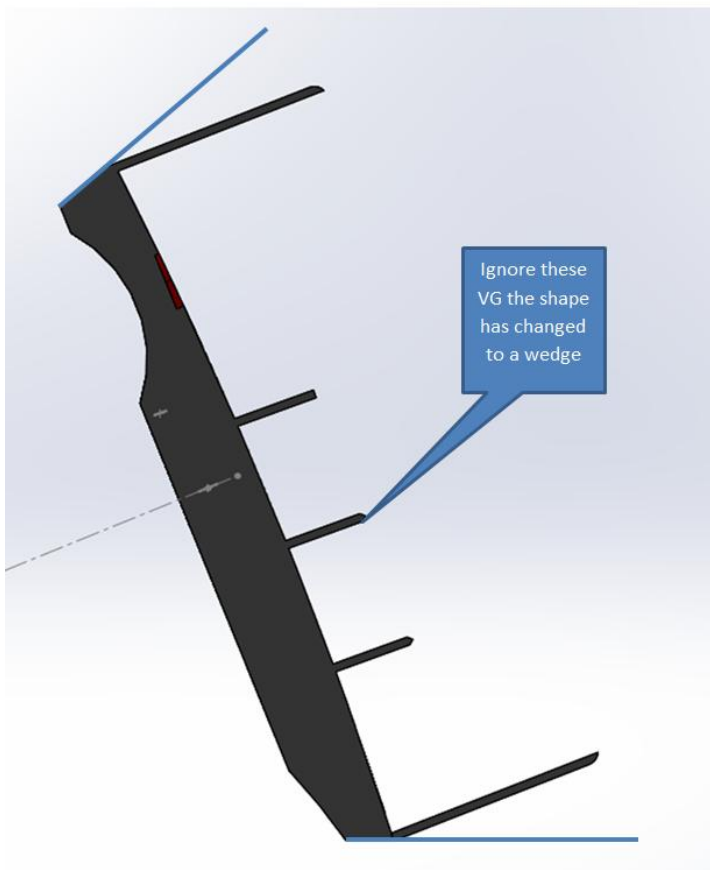
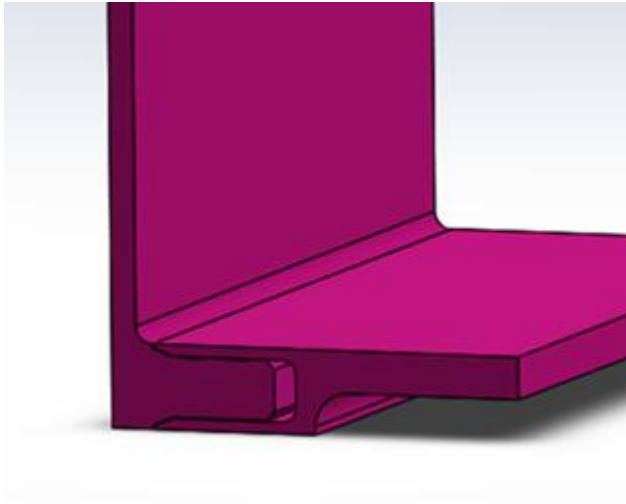

Figure 2
Figure 3
The endplates want to be attached at an angle as if an extension of the airbrake edges see Figure 2. The Pressure Surface side (PS) to be facing inwards towards the centreline of the airbrake. The endplates want to attach to the sides of the airbrake. The interface boss is simply a pictorial representation of the need to extend as each side is different. Essentially the thickness of the boss is taken from the width of the airbrake so that the span remains the same. 10mm thick was chosen so that larger endplates may be used later if required. The boss would fit to the endplate with a tongue and groove arrangement. The joint is likely to be a tongue and groove (T&G) so that they may be tuned if required see Figure 3. Because of the depth of section of the airbrake in the side regions the T&G detail will be thicker than this initial sketch shows.